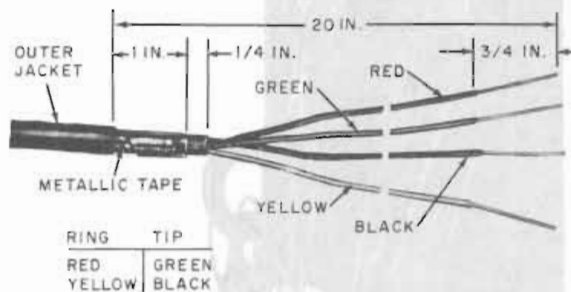

Fig. 64—Prepared Service Wire—D Cable Closure
- (1) Remove all unnecessary slack from the service wire. Mark the outer jacket 1/4 inch below the AT-7796X connector. Prepare the service wire as illustrated in Fig. 64.